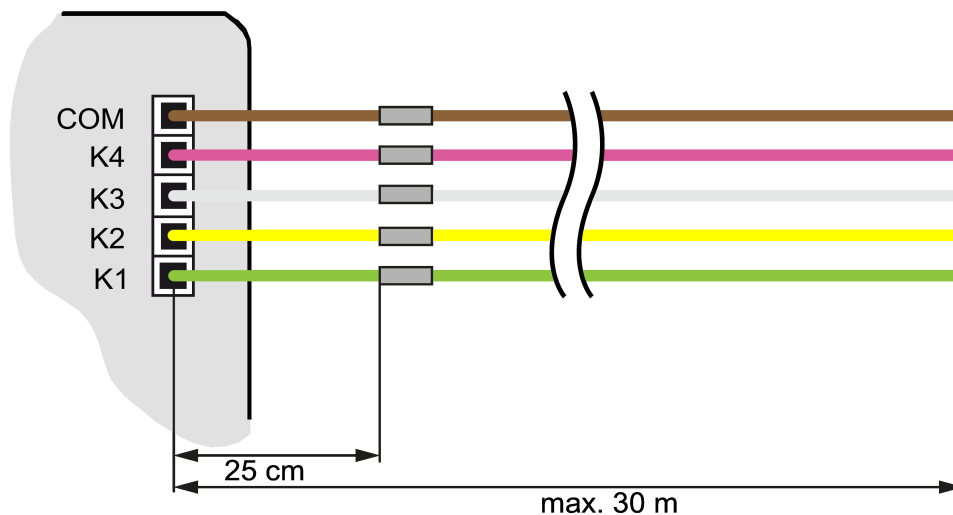

Figure 5: Maximum cable length
- i** For the extension of the enclosed cable set (see figure 5), observe the maximum cable length (see chapter "Technical data" ▶ Page 9). The following applies: the com cable for each cable set may not have a total length beyond 30 m in length.